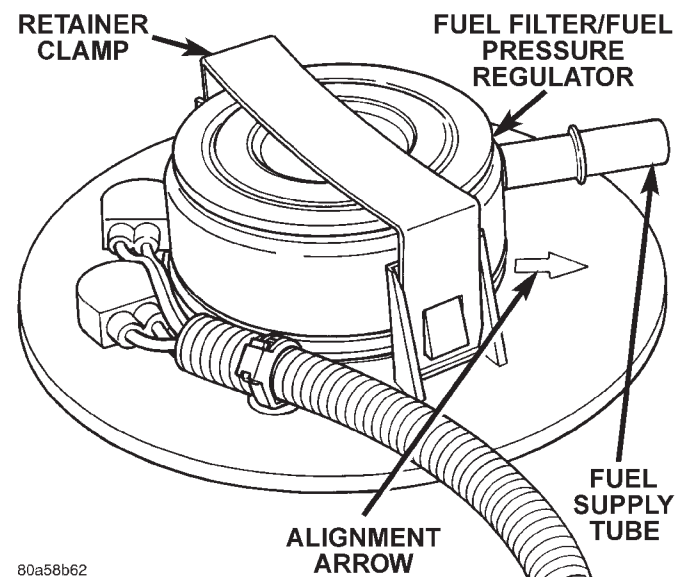
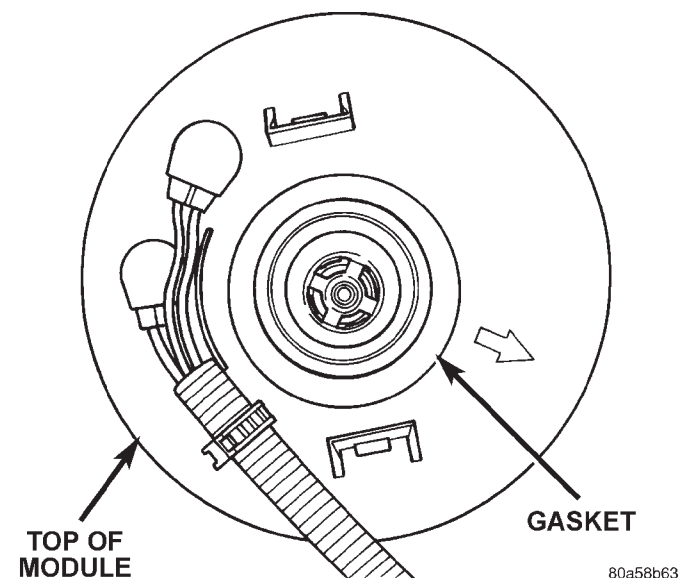

Fig. 22 Fuel Filter/Fuel Pressure Regulator
Fig. 23 Fuel Filter/Fuel Pressure Regulator Gasket
(1) Remove fuel tank. Refer to Fuel Tank Removal/Installation.
(2) Clean area around filter/regulator.
(3) Disconnect fuel line at filter/regulator. Refer to Quick-Connect Fittings in this group for procedures.
(4) Remove retainer clamp from top of filter/regulator (Fig. 22). Clamp snaps to tabs on pump module. Discard old clamp.
(5) Pry filter/regulator from top of pump module with 2 screwdrivers. Unit is snapped into module.
(6) Discard gasket below filter/regulator (Fig. 23).
(1) Clean recessed area in pump module where filter/regulator is to be installed.
(2) Obtain new filter/regulator (two new o-rings should already be installed).
(3) Apply a small amount of clean engine oil to o-rings. **Do not install o-rings separately into fuel pump module. They will be damaged when installing filter/regulator.**
(4) Install new gasket to top of fuel pump module.
(5) Press new filter/regulator into top of pump module until it snaps into position (a positive click must be heard or felt).
(6) The molded arrow (Fig. 22) on top of fuel pump module should be pointed towards front of vehicle (12 o'clock position).
(7) Rotate filter/regulator until fuel supply tube (fitting) is pointed to 10 o'clock position.
(8) Install new retainer clamp (clamp snaps over top of filter/regulator and locks to flanges on pump module).
(9) Connect fuel line at filter/regulator. Refer to Quick-Connect Fittings in this group for procedures.
(10) Install fuel tank. Refer to Fuel Tank Removal/Installation.
- (1) Using a new gasket, position fuel pump module into opening in fuel tank.
- (2) Position locknut over top of fuel pump module.
- (3) Rotate module until arrow (Fig. 22) is pointed toward front of vehicle (12 o'clock position). This step must be done to prevent float/float rod assembly from contacting sides of fuel tank.
- (4) Install Special Tool 6856 to locknut.
- (5) Tighten locknut to 62 N·m (45 ft. lbs.) torque.
- (6) Rotate fuel filter/fuel pressure regulator until its fitting is pointed to 10 o'clock position.
- (7) Install fuel tank. Refer to Fuel Tank Installation in this section.